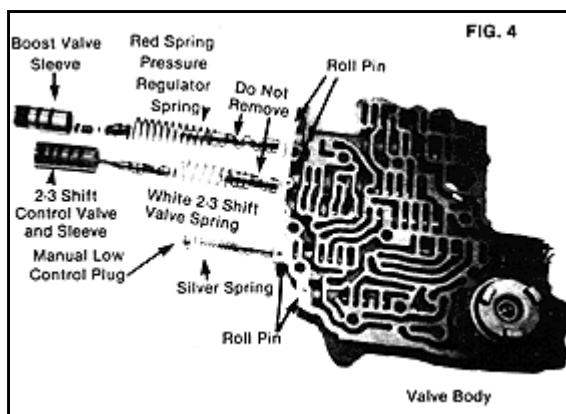

Figure 4
**STEP 7. Valve Body:** Place the valve body on the bench with the channel side up. Remove the roll pin holding the 2-3-shift control valve sleeve in place. **(See Fig. 4)** Remove the sleeve carefully. This may require a little prying with a small screwdriver. Try not to raise any burrs during removal. Next remove the 2-3-shift valve spring. Discard this spring and replace it with the white spring supplied with the kit. Note: The small tapered end goes in first. Install the 2-3-shift control sleeve assembly as removed. Align sleeve and install retaining roll pin.
**STEP 8.** Remove the roll pin holding the boost valve sleeve in place. Remove the sleeve carefully. Again, this may require a little prying with a small screwdriver. Remove the pressure regulator spring and discard it. Replace it with the red spring supplied with the kit. Note: This small tapered end goes in first. Replace sleeve assembly and roll pin. **(See Fig. 4)**
**STEP 9.** Remove the roll pin that holds the manual low control plug in place. Remove the plug and the manual low control spring. Discard the spring and install the special silver spring supplied in its place. Install the plug and pin as removed. **(See Fig. 4)**
**STEP 16.** Lay valve body gasket (the small one) on the valve body. Guide valve body into position. Engage manual valve linkage in selector lever. S-links can only install one way. Off-set linkage must be installed with the link in the forward position (See Fig. 4) Install valve body bolts finger tight. Install detent roller spring so it engages selector lever. Tighten valve body bolts to 13-ft.lbs. Tighten stiffener plate bolts to 13-ft.lbs. Make sure